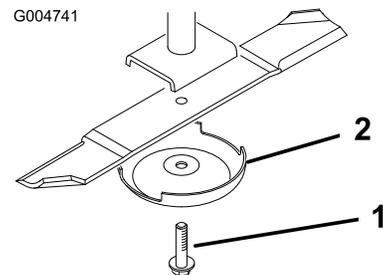

Figure 109
3. Remove the blade bolt, anti-scalp cup, and blade from the spindle shaft (Figure 109).